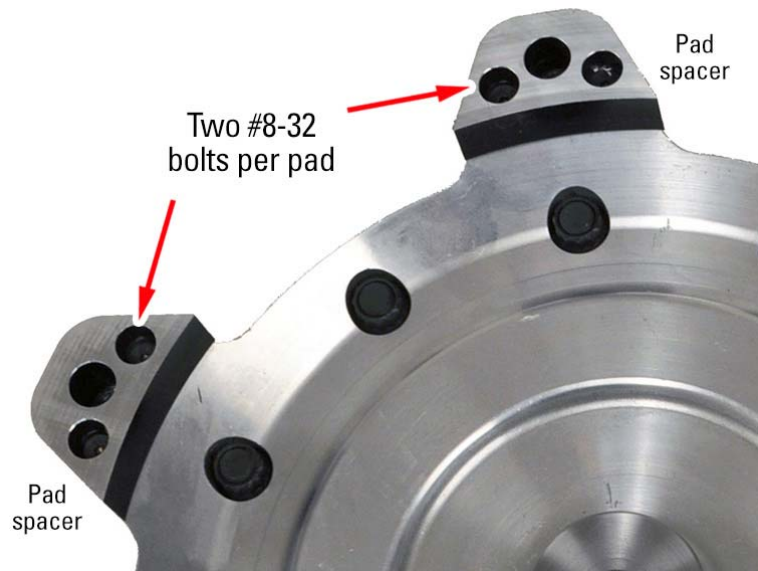

Figure 4: Torque Converter and pad spacers
Step 5: If the spacers are not already installed, install the six (6) .750" thick converter pad spacers on the Torque Converter (#14) using twelve (12) #8-32 bolts. See Figure 4 below for reference.